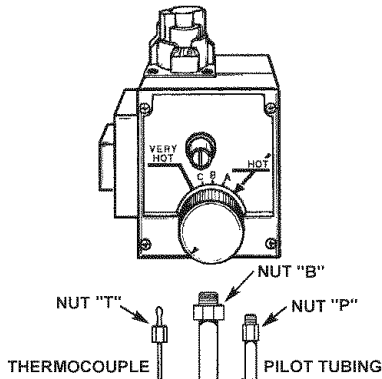

FIGURE 20.
- Loosen flare nut "T" holding thermocouple to bottom of gas valve with 3/8" open-end wrench and pull down to remove, see Figure 20.
- Loosen flare nut "P" holding pilot line to bottom of gas valve with 7/16" open-end wrench and pull tube down to remove, see Figure 20.
- Loosen flange nut "B" holding burner tube to bottom of gas valve with 3/4" open-end wrench and pull down to remove, see Figure 20.